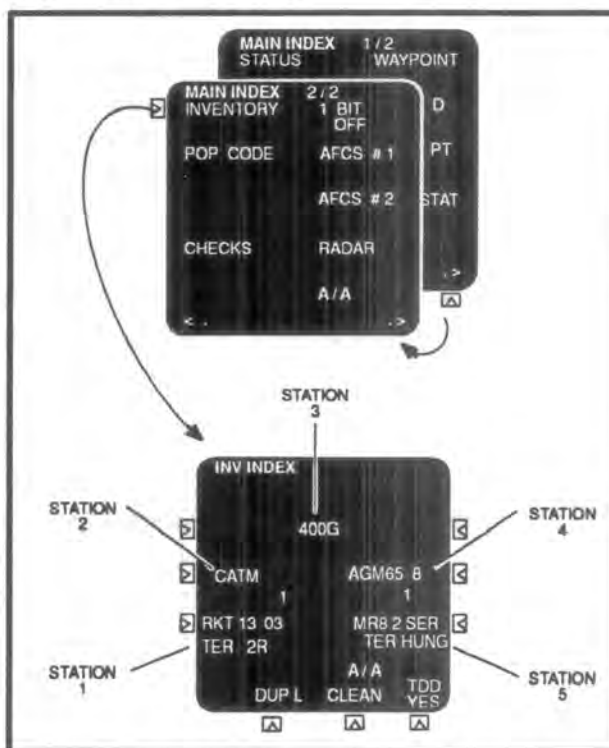

Figure 8-21 Sample Inventory Index Display
8.94 Inventory data is manually loaded by first selecting INVENTORY on the MAIN INDEX 2/2 page (as shown in Figure 8-21). This displays the INV INDEX page which shows the currently stored configuration of each of the five stations. A HUNG legend will be displayed next to any station determined to have a hung weapon.